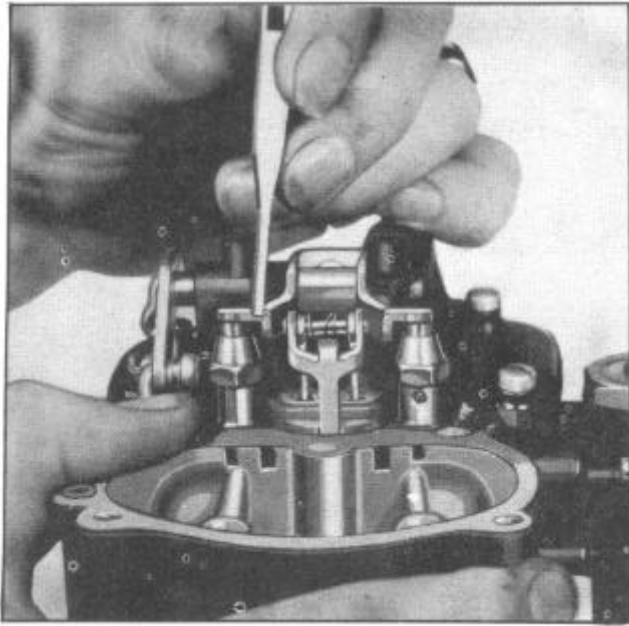

Figure 23 - Anti Percolator Valve Models 41,43,44,45,47
2. Bend lips of anti percolator arm until center of indicator lines on valves are just flush with top of plugs, see Figure 23.